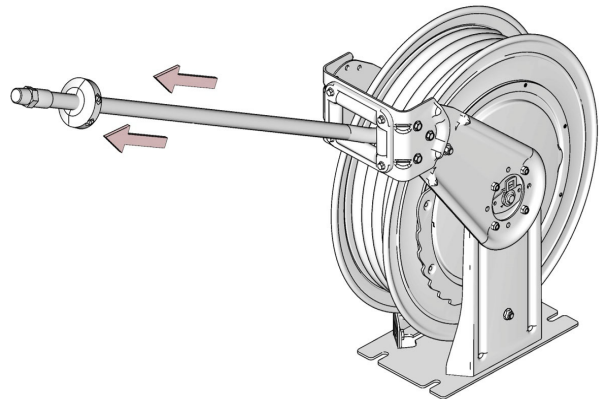

FIG. 16
7. Pull on hose to test tension (FIG. 16).